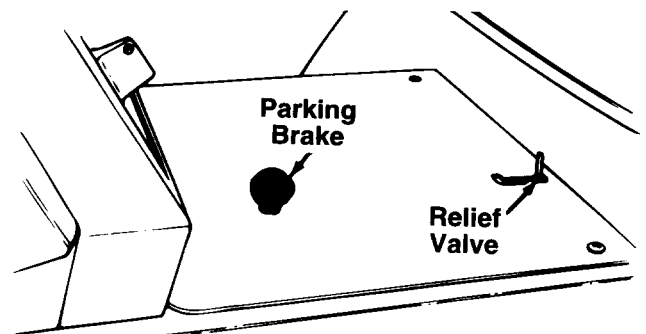

FIGURE 11
The speed control lever is used to set the parking brake. To set the parking brake, depress the clutch-brake pedal. Press the speed control lever outward and all the way to the rear of the unit. Release the speed control lever and the clutch-brake pedal. To release the parking brake, depress and release the clutch-brake pedal. See figure 11.
A hydrostatic relief valve is provided so the unit can be moved without the engine running. The lever which operates the relief valve is located on the console. See figure 11.
**NOTE:** Adjust the seat to the rear of the rider to avoid puncturing the seat with the pressure relief valve lever. See figure 11.